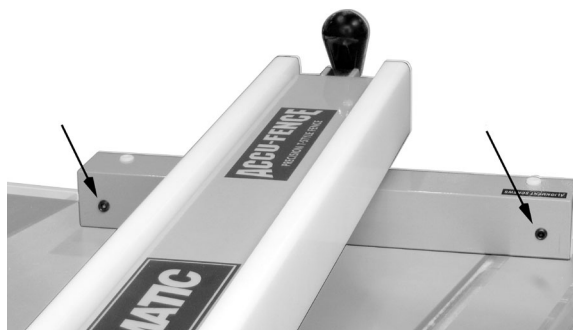

Figure 19
4. Adjust one of the two setscrews (Figure 19) until the fence is even with the miter slot edge along its entire length when locked.
2. Adjust each of the two setscrews (Figure 19) exactly the same number of rotations until desired pressure is achieved when the lock handle is pushed down. Rotate counter-clockwise to increase cam pressure and clockwise to decrease.